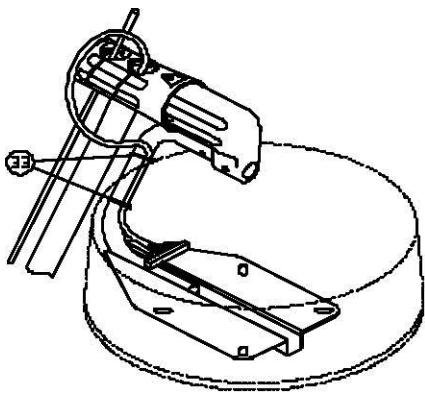

FIGURE 10
T. At this point, follow the radar manufacturer's instructions. Connect the antenna cable to radar dome and then secure it to the Mounting Plate (22). **NOTE:** After the radar antenna dome has been secured to the Mounting Plate and Cradle Tube and the Mounting Plate and Screws (24) secured, the radar antenna dome **cannot** be removed, without dis-assembly, when configured in the forward mounted option.
V. Feed any excess antenna cable down the inside of the Mounting Pole leaving a loop at the top, see (Figures 10 & 11). Use the cable ties (33) to attach the radar cable to the Cradle Tube (23). Insert the two small plugs (30) in the holes on either side of the Damper Assembly. Install the Large Plug (31) in the open end of the Cradle Tube.